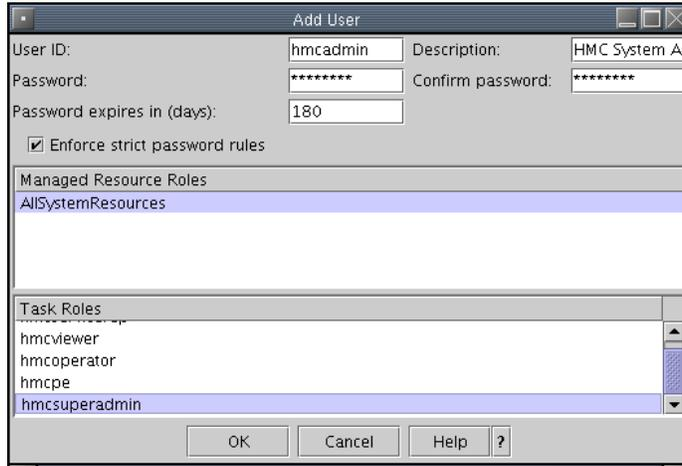

Figure 7-4 Add a new user with Super Administrator role
2. Insert the new user ID, a description of the user ID, the password for the new user ID, and re-type the new password (Figure 7-4).